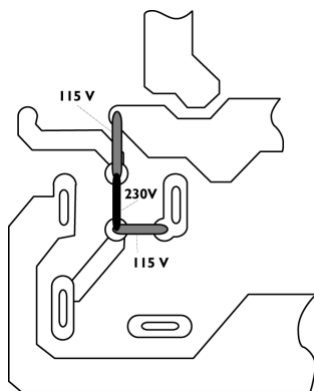

Figure 15. 230 VAC or 115 VAC selection
6. To select the desired mains voltage, install the jumpers as shown in Figure 15.